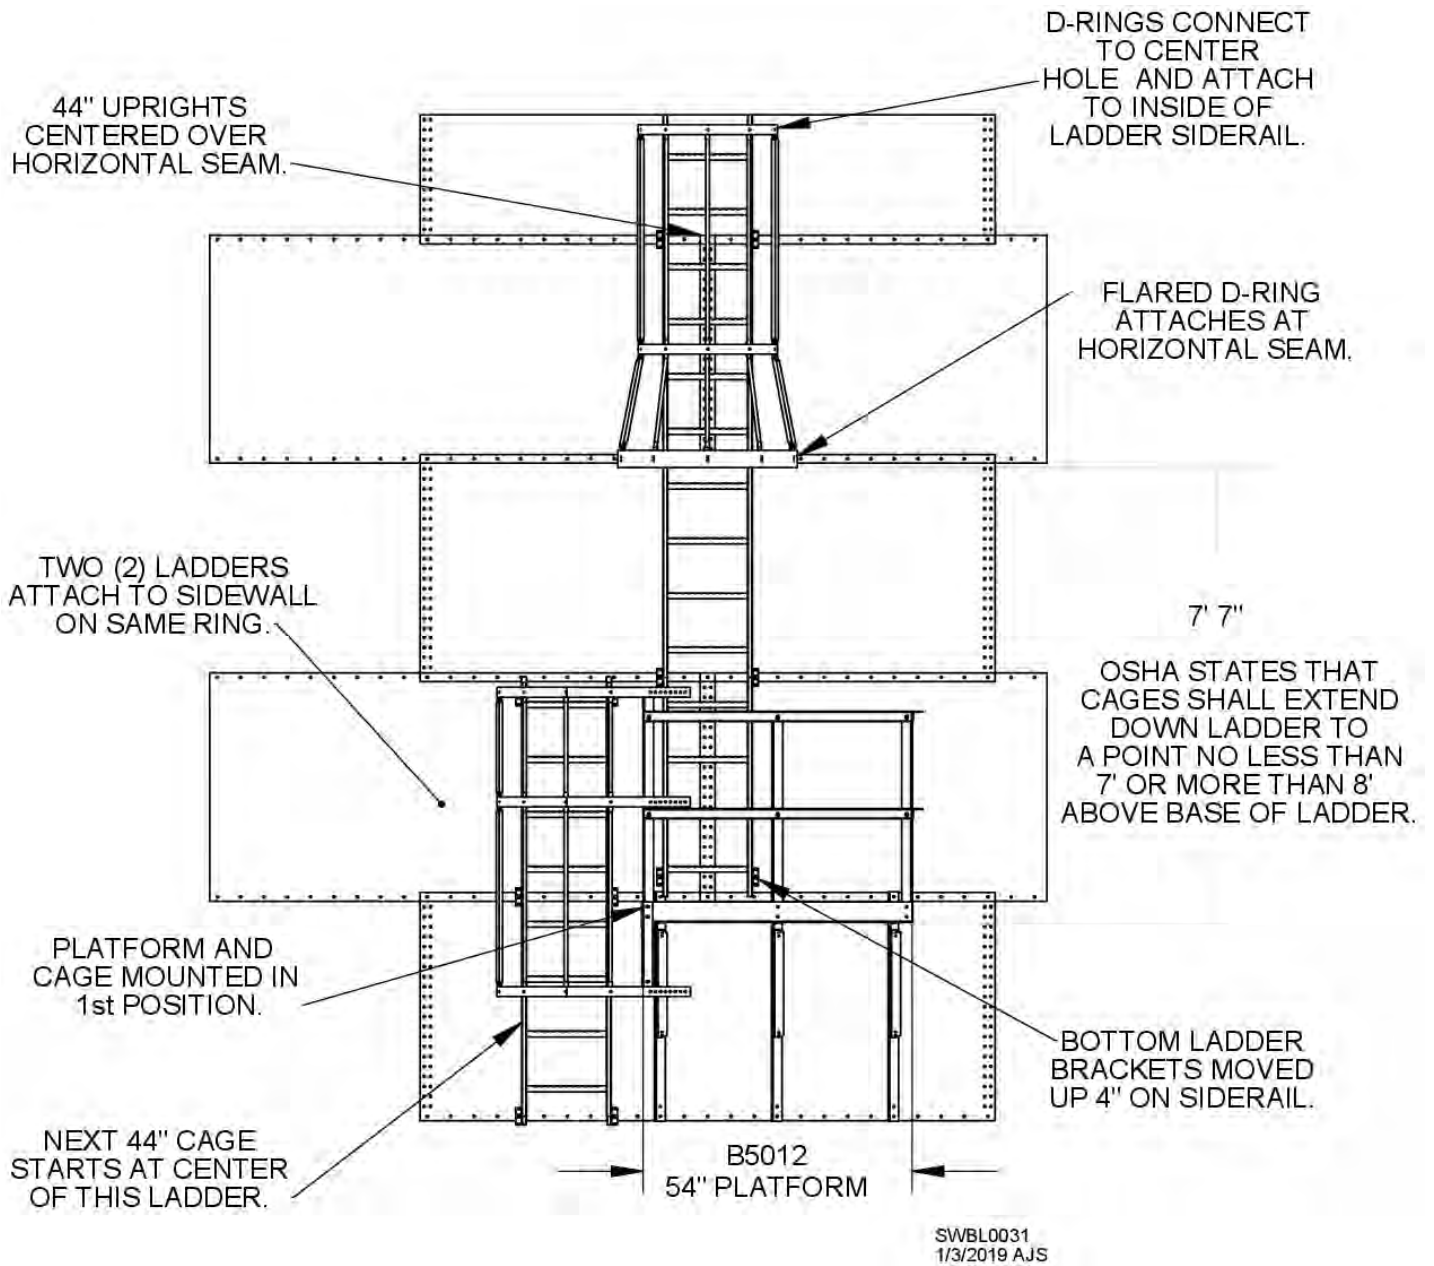
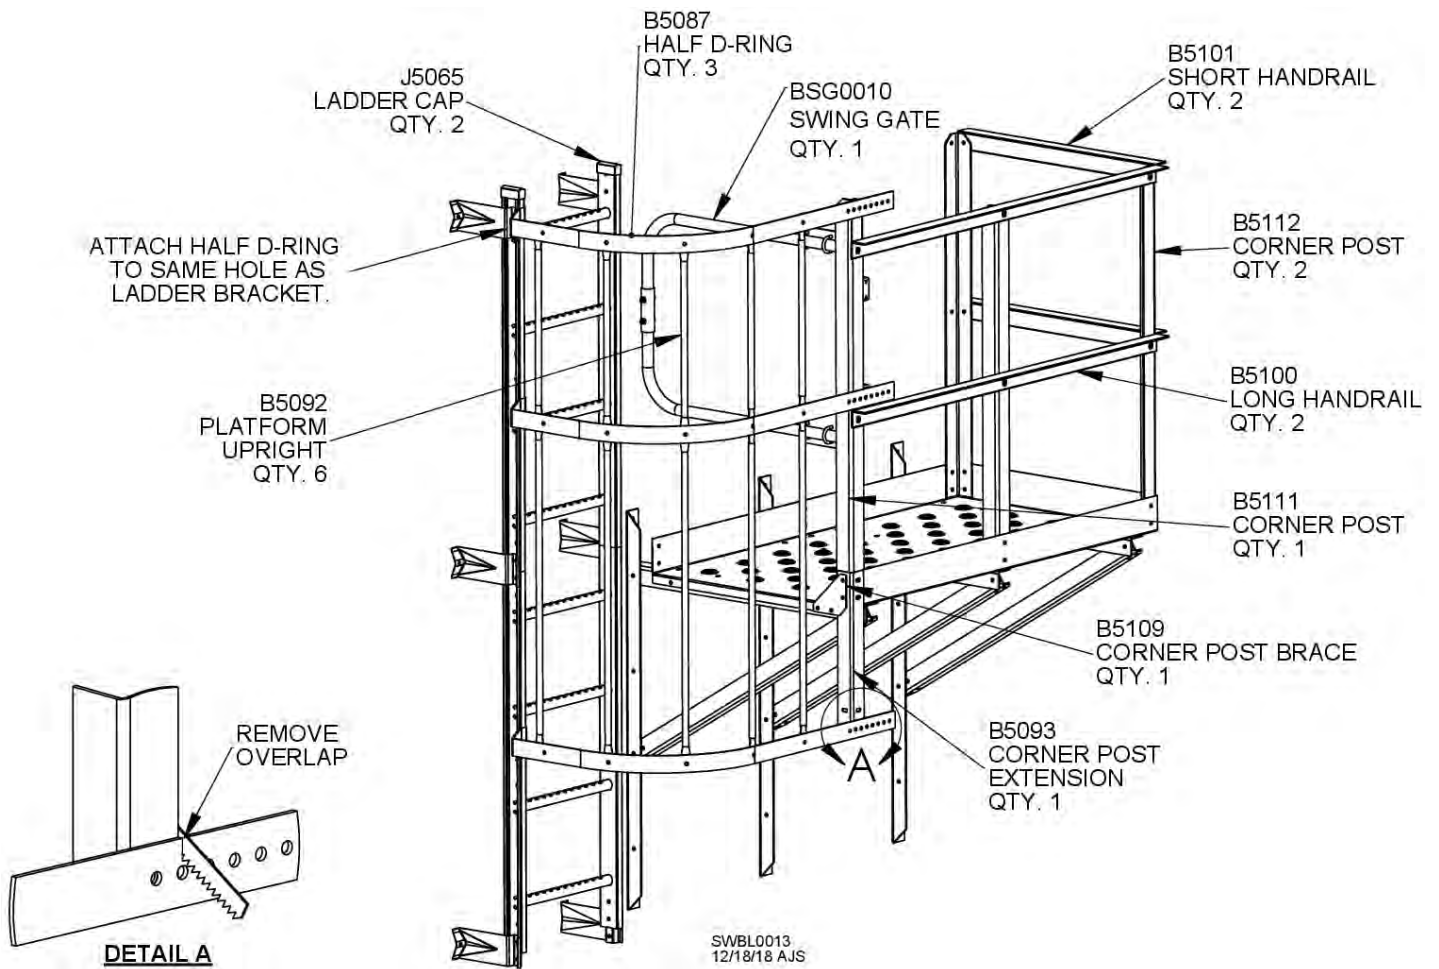

Fig. 16
Fig. 17
Fig. 16 shows where flared D-ring should be attached in relation to 54" landing platform on a non-stiffened bin. Flared D-ring should be two (2) sidewall rings above platform. **Platform must be attached to sidewall in 1st position.** This will ensure that federal Occupational Safety and Health Administration (OSHA) standards are met, as well as ease erection of ladder and cages. Two ladders attach to sidewall on same ring at platform location. At top and bottom of each ladder assembly, sidewall brackets need to be moved either up or down 4" to avoid interference with roof sheets, platform brackets, concrete and ladder caps.
Attach 54" landing platform to sidewall under upper ladder as shown in Fig. 16. Attach 44" ladder section to sidewall ring above platform. Fasten corner post extension, B5093, to bottom of open-faced corner post B5111 as shown in Fig. 17. Note that corner post B5111 is slightly longer than B5112 posts. Placement is critical.
Attach half D-rings to inside of ladder siderail and fasten them to corner post B5111 and corner post extension, B5093. Connect safety cage uprights to half D-rings with 3/8" hardware and tighten. Slide ladder caps over siderails of top ladder section. See Fig. 17. Also, remove half D-ring overlaps as shown in Detail A to ensure smooth, snag-free edges.